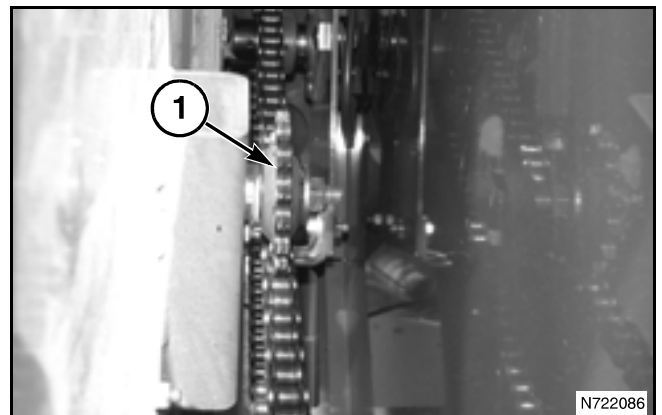

FIG. 38
FIG. 38: The grain tank filling auger is chain driven from the top shaft of the clean grain elevator. An idler sprocket (1) is used to adjust the drive chain tension. The lower strand must have 12 to 19 mm (0.48 to 0.75 in) slack at the center of the longest span.